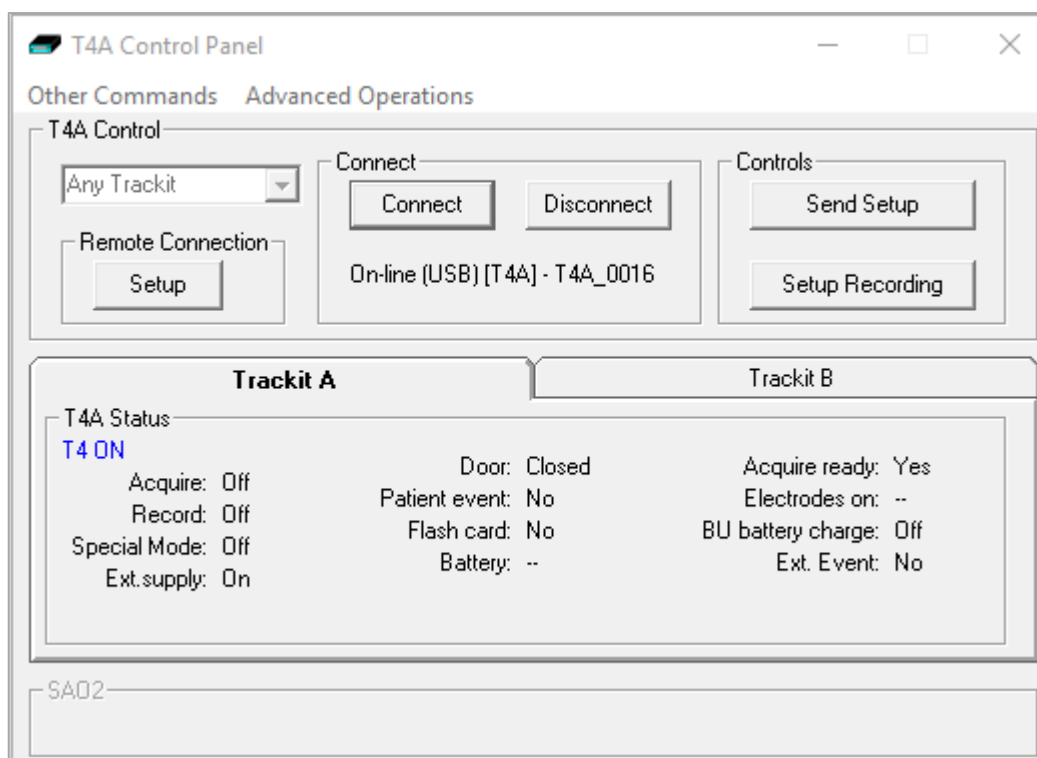
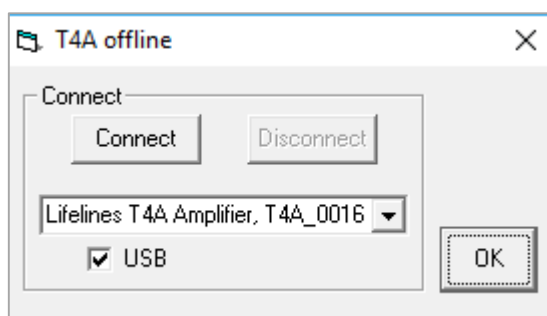

Figure 8: Trackit Control Panel
Figure 9: Connect Dialog Box
1. Open the Trackit Connect dialog box (Figure 9) by clicking on the Connect icon in the Home toolbar (Figure 5) or the Connect button in the Control Panel (Figure 8).